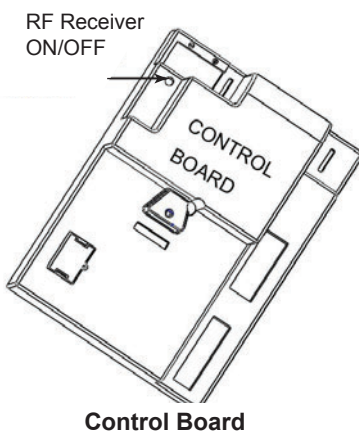

Figure 45
1. The RF receiver button on the control board in the fireplace must be in the on position before the learn function can begin. *Figure 45*. With the Command Center master switch in the ON position, use paper clip to depress the recessed button on Control Board, one beep for RF receiver ON or two beeps for RF receiver OFF